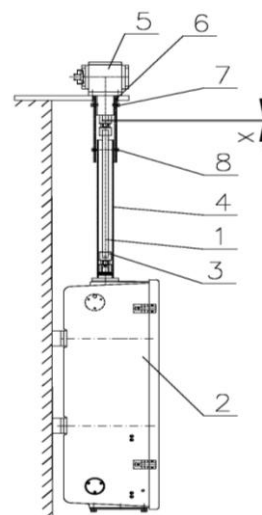

Fig.34 – Vertical shaft with protective pipes
11.1. Installation of a vertical shaft with protective pipes (Fig. 34).